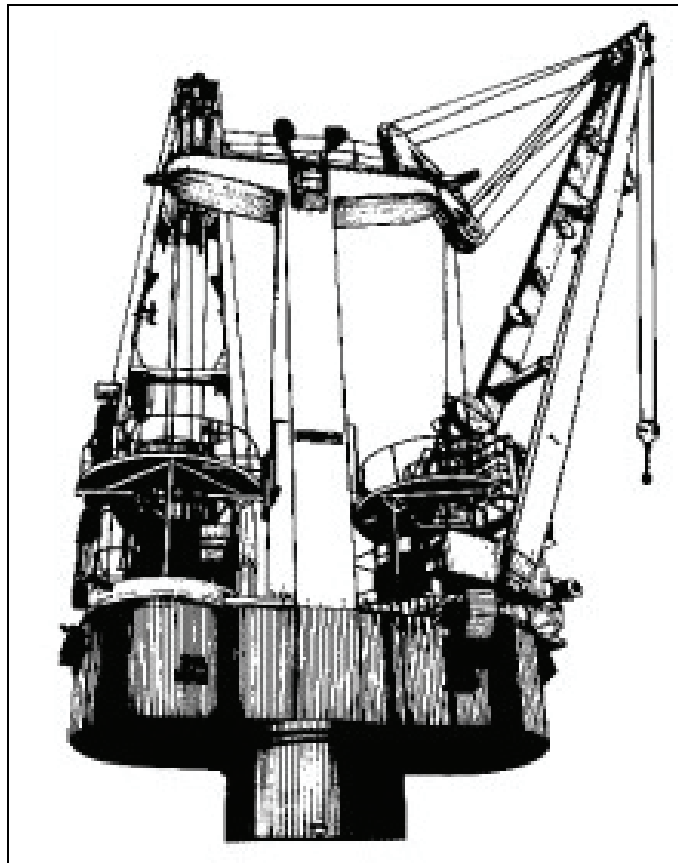

Figure 3-42. Haggglunds Crane in Twin Mode
1. Set up the Haggglunds crane in twin mode (see Figure 3-42).